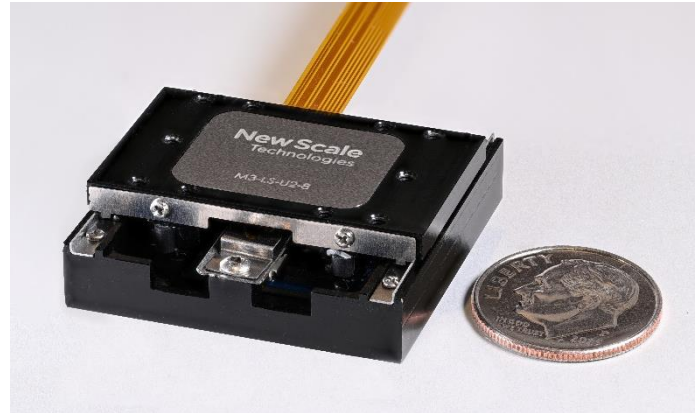
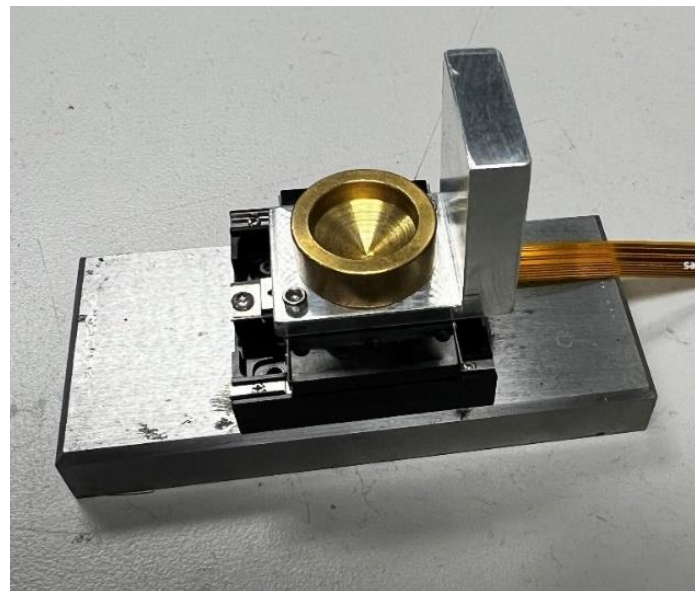

Figure 1. M3-LS-U2-8 Linear Smart Stage
Figure 2 – Setup for a life test at New Scale Technologies of the M3-LS-U2-8 Linear Stage, using a 20 gram load, offset 8.75 mm at the reverse position.
The lifetime of M3-LS-U2-8 Linear Smart Stages (Figure 1) is largely dependent upon the use case. At New Scale Technologies, stages were life tested horizontally with random moves, with a 20 gram load offset 8.75 mm at the reverse position (see Figure 2). Test data indicates that there are some best practices to extend the lifetime of the stages.
* For the life test in Figure 2, Max Position Error: 500 μ m and Max Incremental Error: 50000. The incremental error rises quickly, so to ensure the motor/stage is given sufficient opportunity to reach the target, a value of no less than 20000 is recommended.
The probability of failed moves varies greatly depending on the use case. For example, the larger your positional tolerance allowance at the target position, and the longer you allow for the stage to settle to the target position, the lower the probability of a failed move. All things being equal, the failed move probability will increase over time as total distance travelled increases. As an example, in the life test setup in Figure 2, the time allowed to move to the target position was 0.5 seconds, and the position tolerance was $\leq 1 \mu\text{m}$. When a stage is new, the failed move probability is $\ll 0.1\%$ with an average positional error of about 2 to 5 μm for these failed moves. With routine conditioning of the stage (described below) of every 1 m of travel, as the total distance traveled of a stage approaches 50 km (the rated lifetime of the M3-LS-U2-8 linear stage), the failed move probability approaches 0.2% with average positional error of 10 to 20 μm for these failed moves. These data are preliminary, and more testing is ongoing.
The input power of the M3-LS-U2-8 stage can be as high as 3.2 W for peak operation. When stages exceed 70°C, as measured by the internal temperature sensor, a stall error can occur; if it is integrated with poor heat sinking, the ambient temperature of the stages could be as low as 50°C, making a stall more likely to occur. It is important to note that this stall error is *not* permanent, and it is recoverable when the stage cools down. To mitigate the stage heating, it is strongly recommended to integrate the stage with good heat sinking, especially for high duty cycle applications. For example, mount the stage on an aluminum plate (as shown in Figure 2), and/or use fans to promote convection.